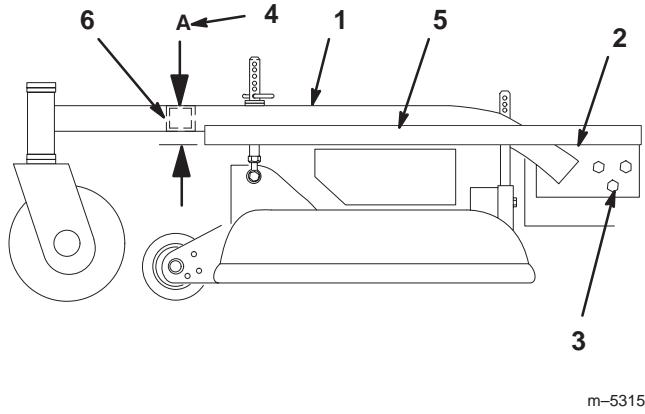

Figure 48
2. Place a long straight edge on top of the engine deck as shown in figure 48.
3. At the carrier frame cross tube, measure location A height (Fig. 48). This measurement must be 2-13/16 in. (71 mm), plus or minus a 1/4 in. (6 mm).
5. Loosen the carrier frame mounting bolts on both sides of the machine (Fig. 48).
6. Align the carrier frame and engine deck to match 2-13/16 in. (71 mm), plus or minus a 1/4 in. (6 mm) at location A (Fig. 48).
7. Tighten the carrier frame mounting bolts on both sides of the machine (Fig. 48).